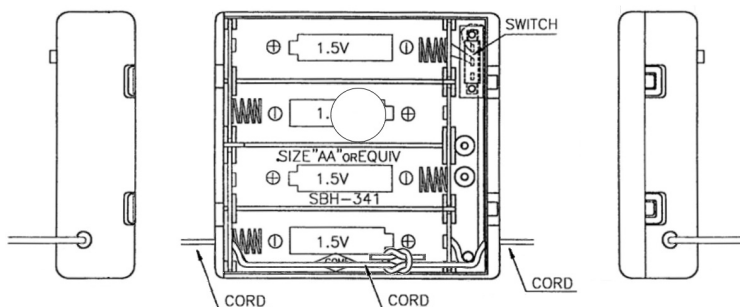

Fig 3L - Inserting neck cord
- 7 - Thread the neck cord through both holes and tie a knot inside the box [Fig 3L]